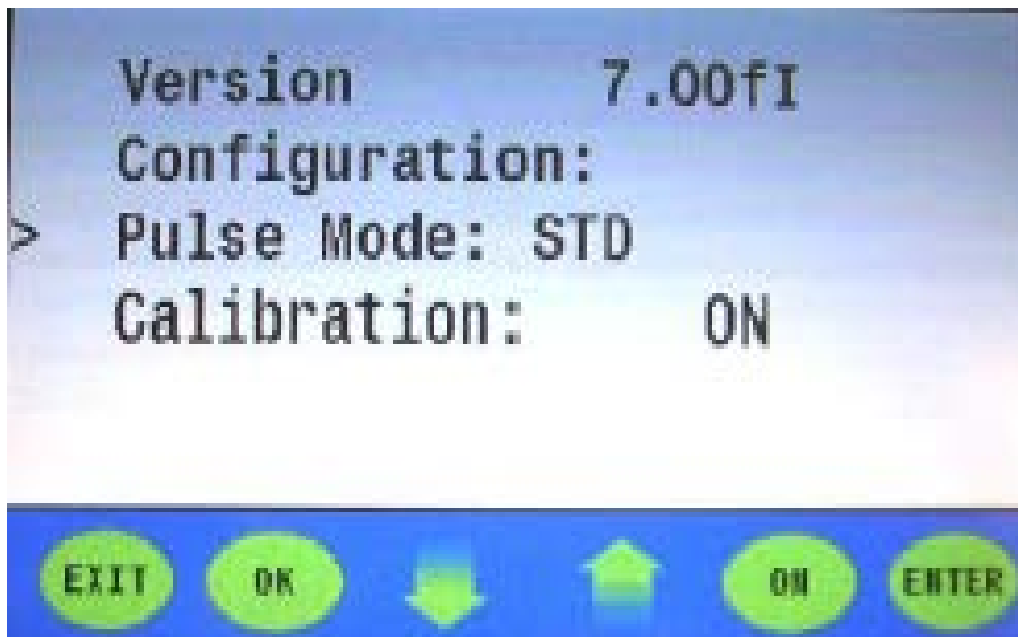

Figure 2
1. Press the **Menu button**. Next, scroll down to pulse mode and press **Enter (figure 2)**.